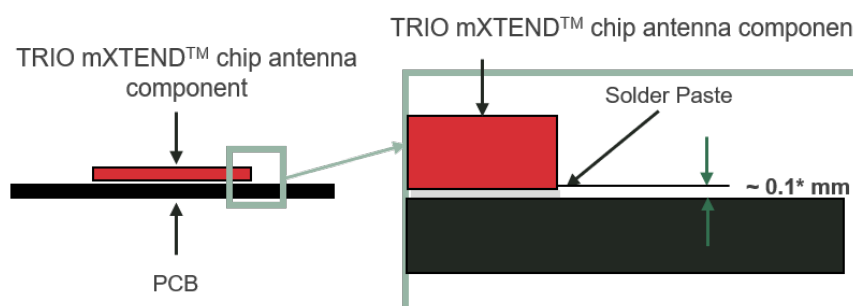

Figure 25 – Soldering Details.
2. Perform a reflow process according to the temperature profile detailed in Table 10, Figure 25.